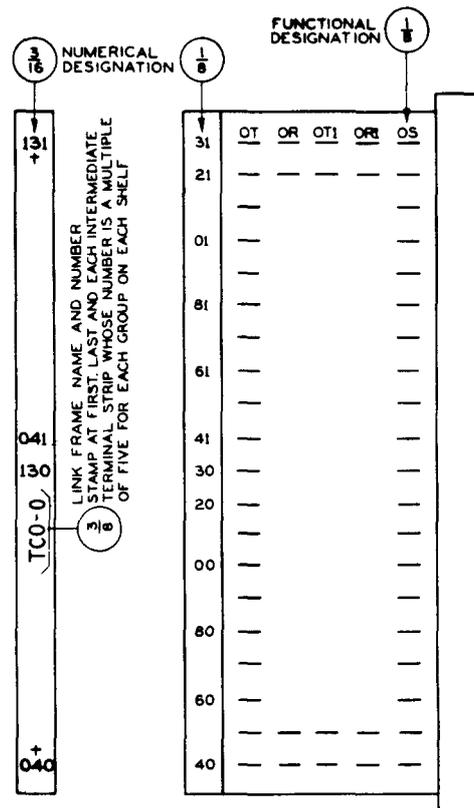

Fig. 35 - Terminal Strips - Link Frame Trunks - TDF
2.28 Toll: On terminal strips for link frame trunks, stamp the group designation (link frame name and number TCO 0, TCI 0, ITO 0, ITI 0, etc) on the face of the terminal strip clamping strip of the first, last, and each intermediate terminal strip whose number is a multiple of five, for each group on each shelf. In numbering link frame trunks, the first digit represents the bay number, the second digit the switch number, and the third digit the level number. (See Fig. 35.)